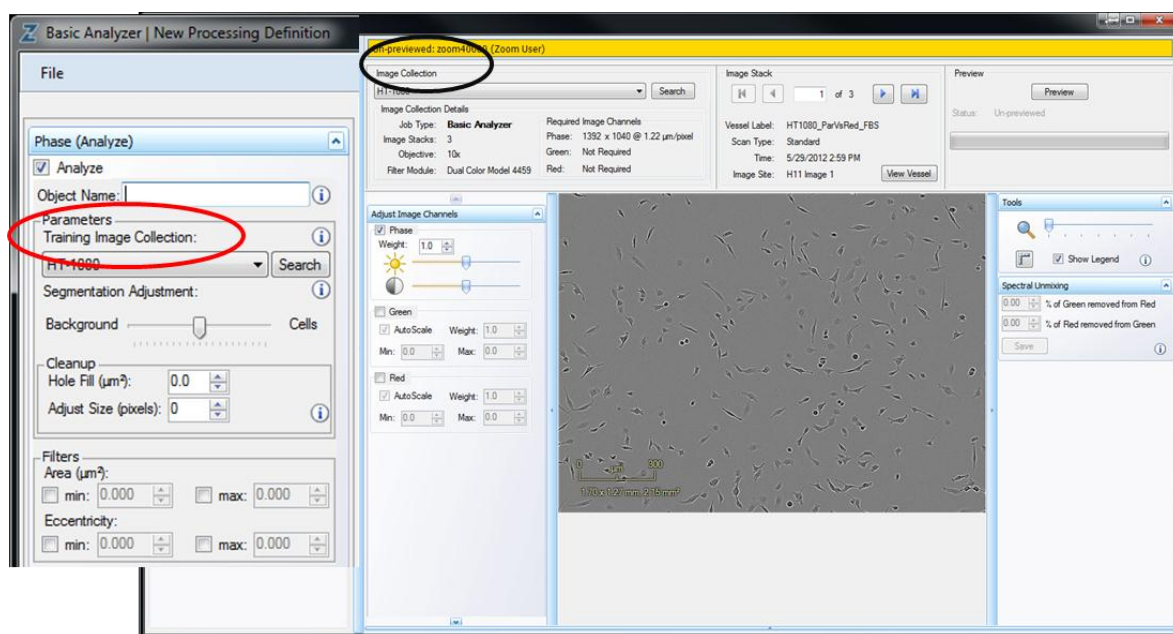

Figure 16. Establishing a New Processing Definition
4. The Basic Analyzer phase confluence requires Users to select a “Training Image Collection” (red circle Figure 16) to determine the parameters that will differentiate between the *Background* and the *Cells* within the image. The “Training Image Collection” should be the Image Collection that you made containing 3-6 representative images of your cells of interest (refer to 7.5.2.1).
5. The images previewed are part of the Image Collection (black circle Figure 16) that you have selected at the top of the screen (Preview Image Collection). This will likely be the same Image Collection used as the “Training Image Collection”.